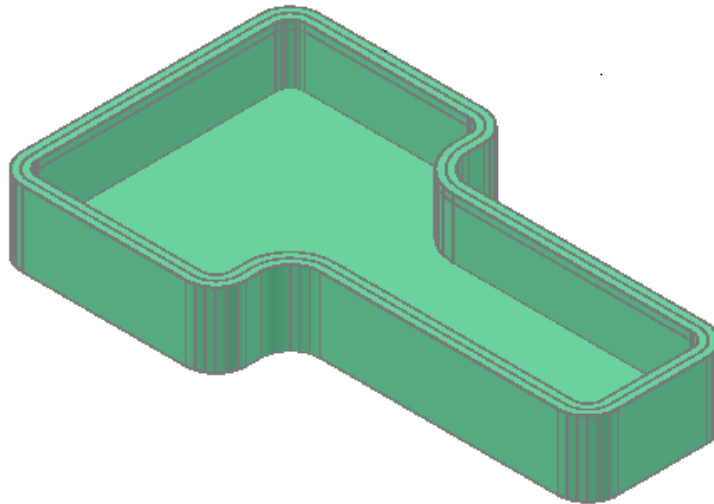

Figure Step 20
Step 20 Change the layer of the solid on layer: Solid Off to layer: Solid 1. Turn layers: Path and Profile off and change the visual style to Realistic. (Figure Step 20)